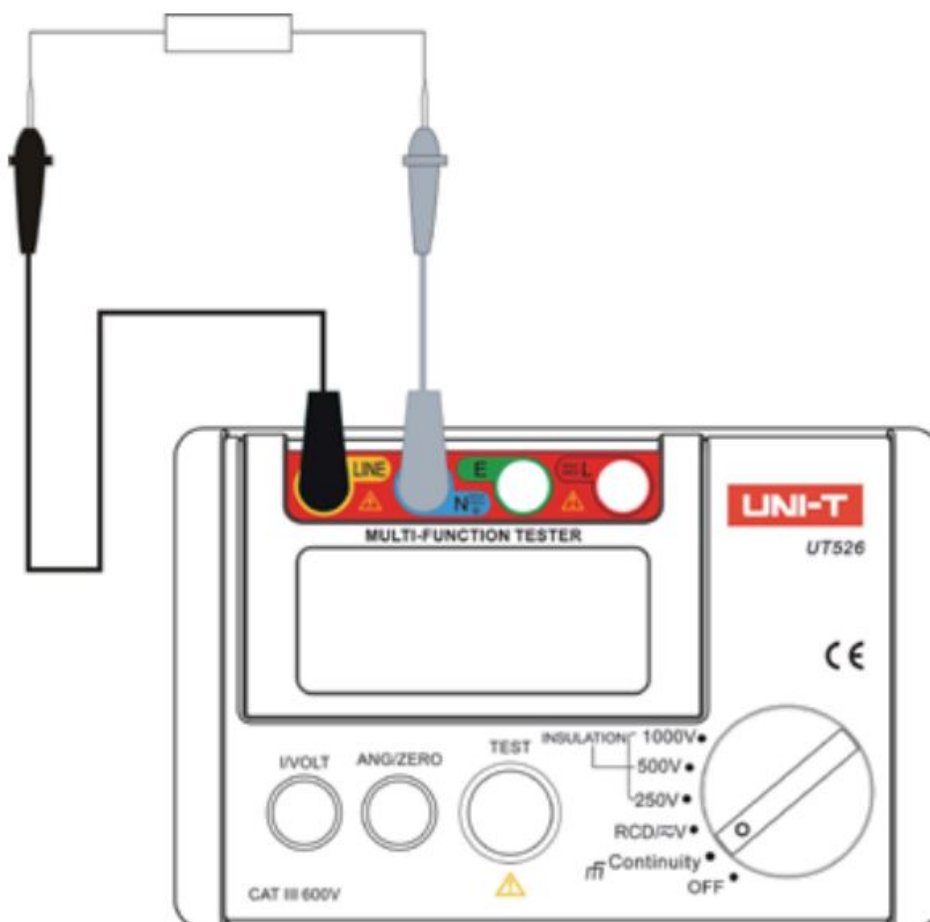

Figure 2
Testing for Continuity(See Figure 2)
1. Connect the tested object and the Tester as shown in Figure 2;